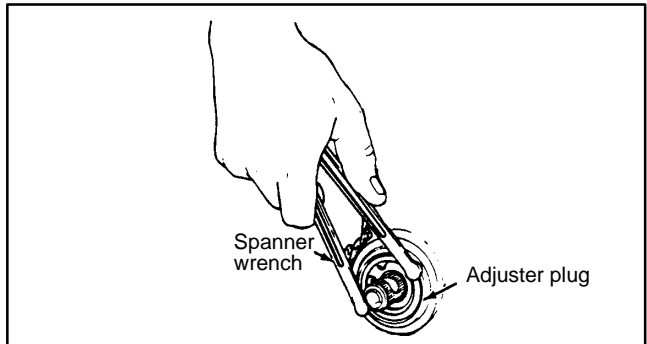

Figure 43
4. Measure back  $\frac{3}{16}$  –  $\frac{1}{4}$  in. (5 – 6 mm) from first index mark and scribe a second index mark (Fig. 43).